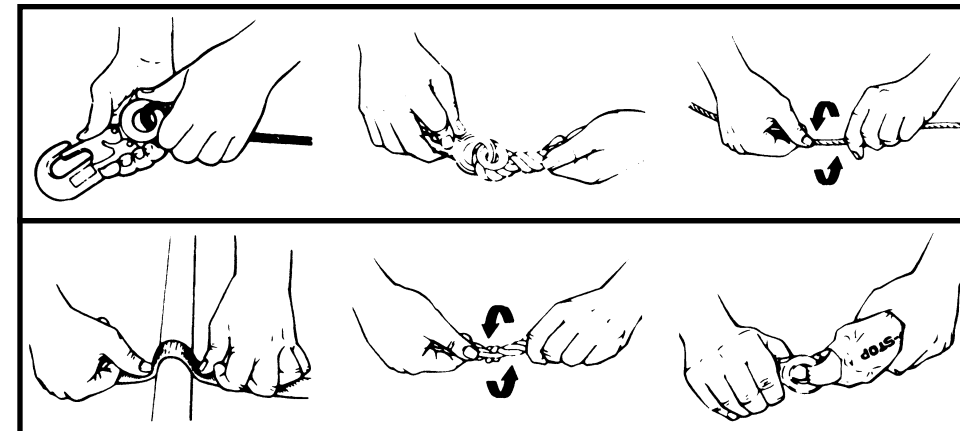

Fig. 4 LANYARD INSPECTION
b. **Eyelets:** The eyelet must be firmly seated in the eye of the splice, and the splice should have no loose or cut strands. The edges of the eyelet must be free of sharp edges, distortion, or cracks (Fig. 4).